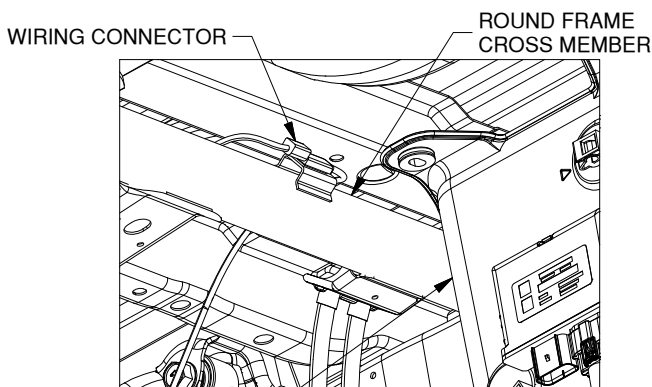

Figure A5
10. **Temporarily remove wiring connector.** For additional clearance, the wiring connector attached to the round frame cross member can be uninstalled from its bracket and allowed to hang during installation, see Figure A5. This will increase the clearance for the installation of the center section and protect the wiring connector during the install.